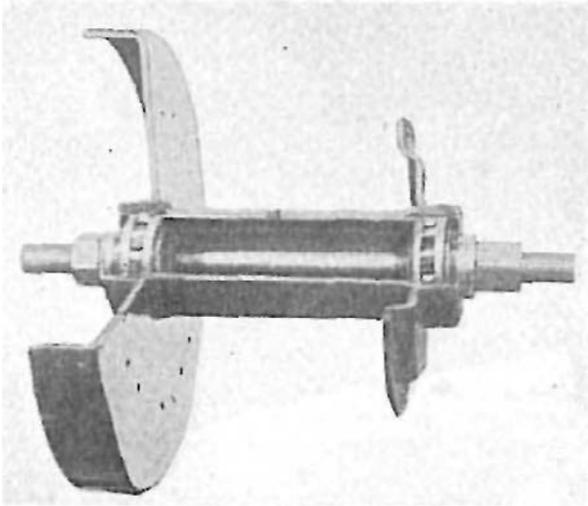

FIG. 17. MATCHLESS FRONT HUB AND BRAKE ANCHOR PLATE SECTIONED TO SHOW CONSTRUCTION
**Wheels and Tyres.** Both wheels are of massive build. Timken taper roller bearings are used throughout, a type of bearing which in order to avoid damage requires exactly the right amount of play (see page 115). Large diameter axles are used and the left-hand cones are adjustable, being secured by thin lock-nuts (Fig. 17).
**Wheels and Tyres.** Both wheels have Timken roller bearings, with adjustable cones on the near side (Fig. 17). On Model X/R3 chromium-plated wheels are standard. The tyres used are 26 in. x 3.25 in. heavy cord, wired-on Dunlops, with Schrader valves. Oversize covers measuring 27 in. x 4 in. are available. The recommended inflation pressures for solo use with standard covers are: front, 18 lb. per sq. in., rear, 24 lb. per sq. in. When a sidecar is used the pressure of the rear tyre should be increased to 26 lb. per sq. in. The tyre on the sidecar wheel itself should be inflated to 20 lb. per sq. in.